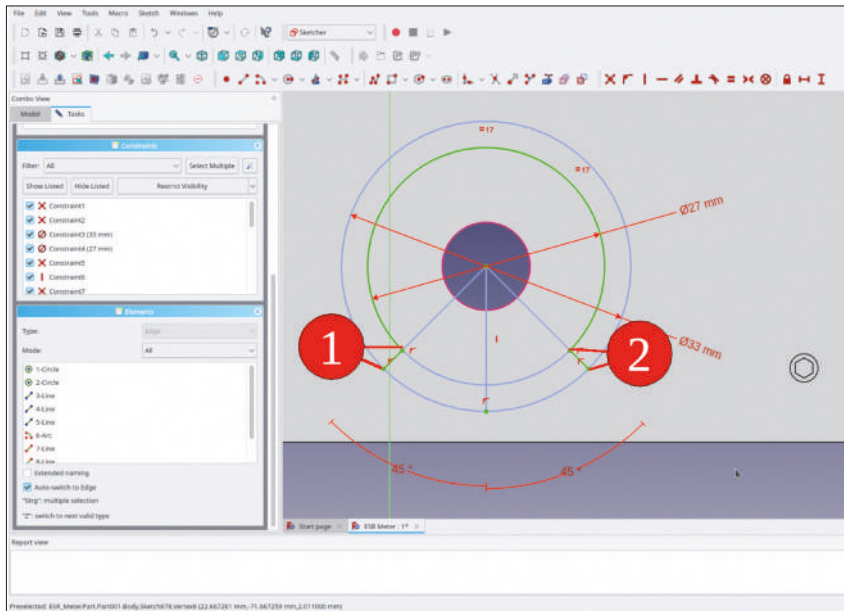

Figure 8-24
10. For the end marks, draw two lines between the endpoints of the arc and the corresponding endpoints of the construction lines (Figure 8-24).